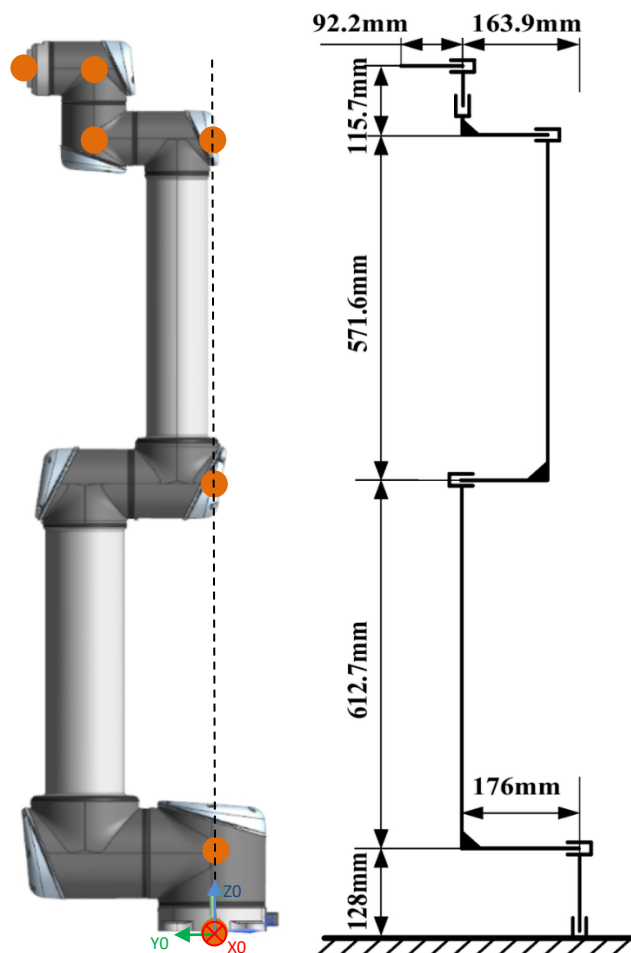

Fig. 2: UR10 - Home configuration
Using the **standard form (Spong)** of the Denavit-Hartenberg (D-H) convention, assign the coordinate frames for each link of the robot in its home configuration (all joint angles are zero, as shown in Fig. 2) and set up the D-H table for the assigned frames. Using **Python's SymPy library**, set up the following and validate your equations parametrically for **5 geometrically known configurations** (rotate joints by 90 degrees).
1. Draw all the D-H coordinate frames for Fig. 2.
- b. The base frame {0} is included in Fig. 2. The final end-effector frame {n} can simply replicate the frame preceding it.